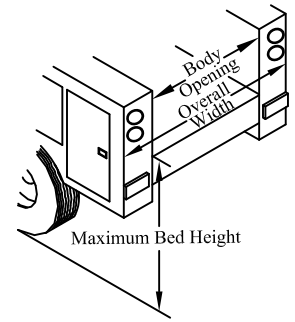

Figure 1: Body opening measurements.
1. **Measure** the body opening, the overall width, and the maximum bed height of the truck (Figure 1).